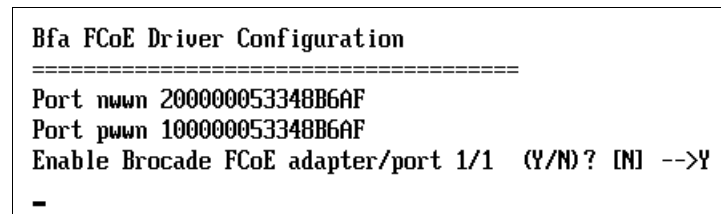

Figure 9-188 WWPN enabling the port for boot
4. From the Bfa FCoE Driver Configuration panel, note the Port WWPN, which is your WWPN and is useful when doing zoning and LUN mapping. Then type Y to enable the Brocade FCoE port, which enables the BIOS function and allows the adapter to boot (Figure 9-188).